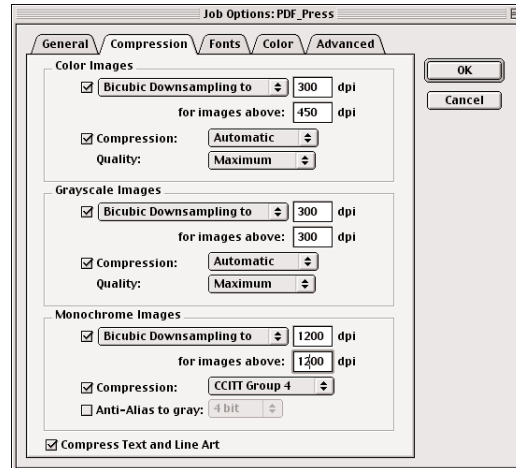

Figure 1-10
**Compression Tab:** (Figure 1-10)